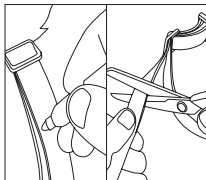

Fig. 4
3. After you have adjusted the collar to the appropriate size, you can cut off the excess length (Fig. 4).